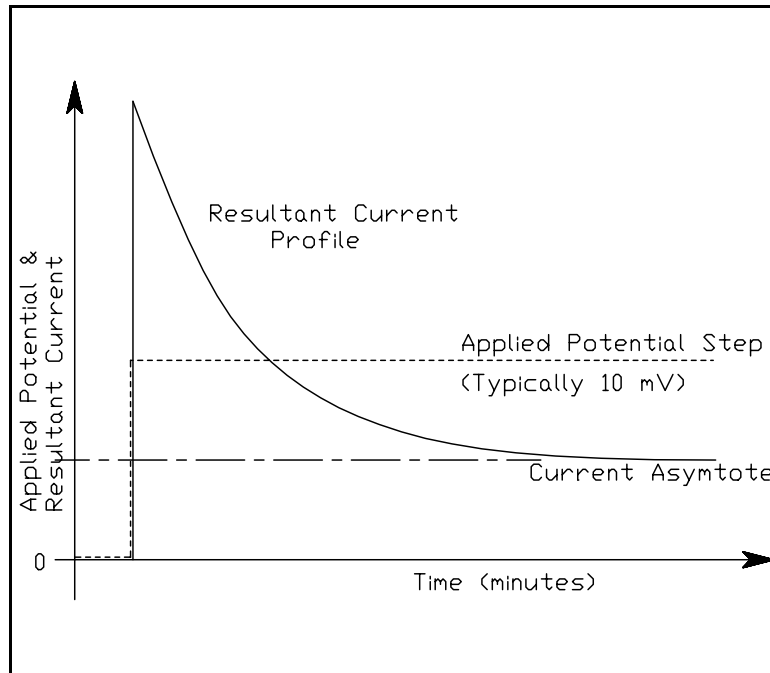

**Figure A-1 Equivalent Circuit of LPR Probe**
From Equations (1) and (2), obtaining results from the LPR technique would seem to require only instantaneous readings of resistance. In practice, however, the determination of polarization resistance is complicated by a capacitance effect at the metal-fluid interface (double-layer capacitance). Figure A-1 is an equivalent electrical circuit of the corrosion cell formed by the measuring electrodes and the fluid, showing the importance of  $R_s$  and double-layer capacitance effects.